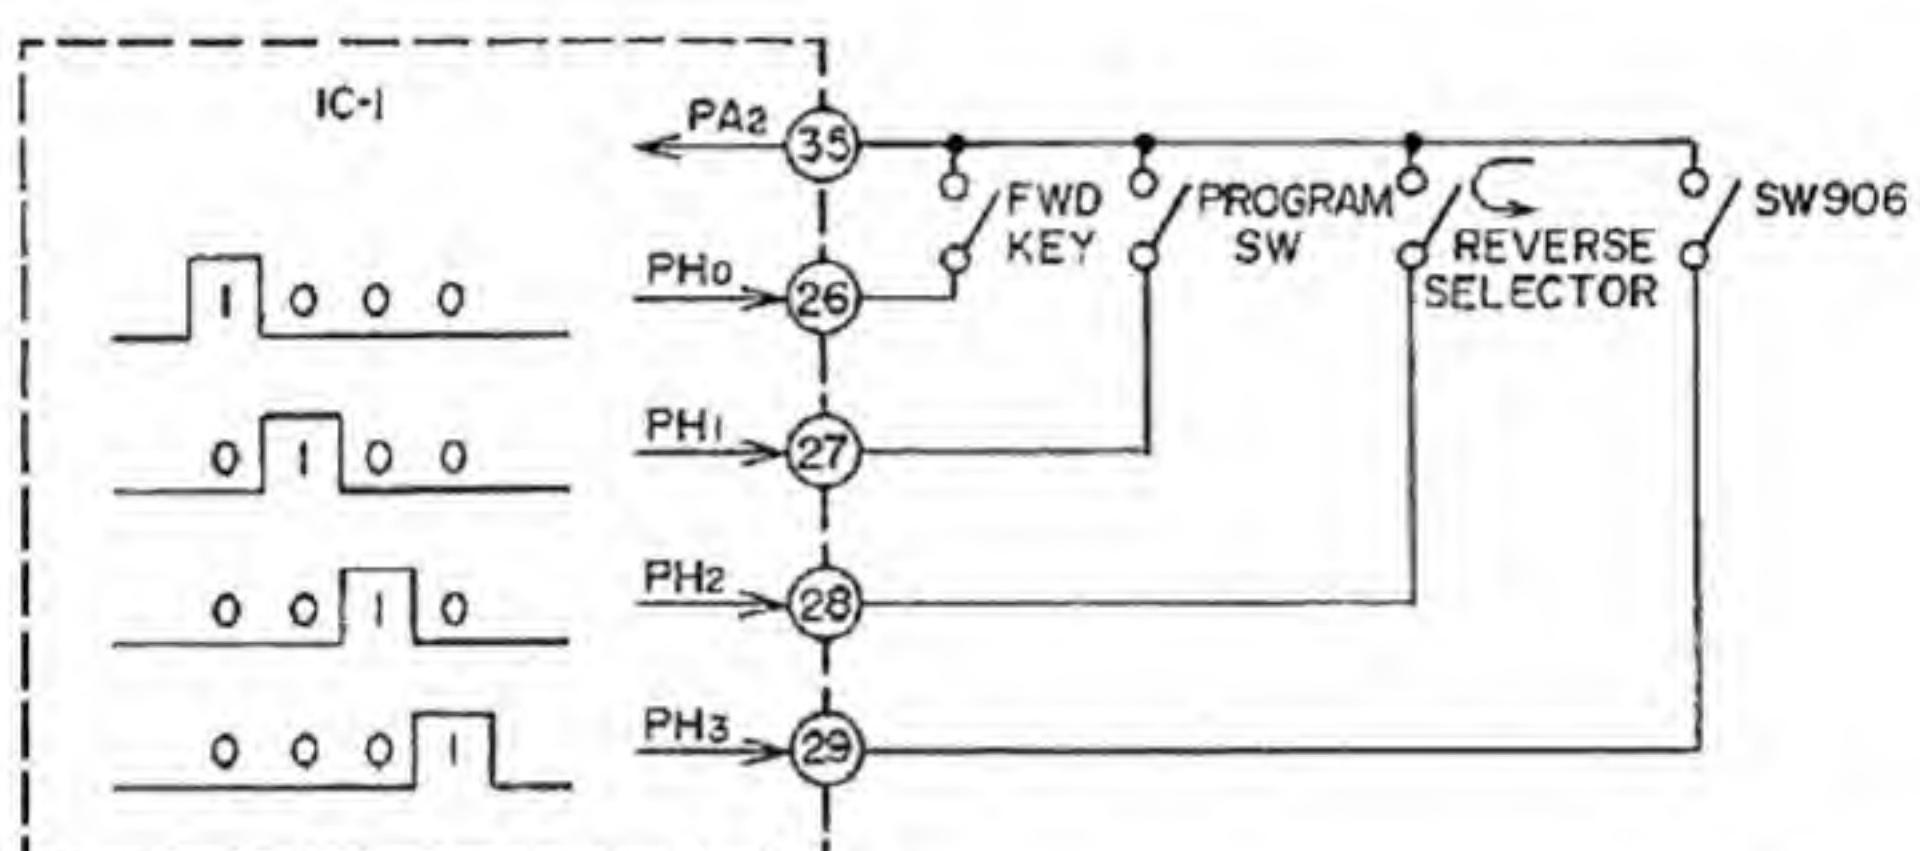

Fig. 14
If any input is made into (35), it is processed within the microcomputer depending on the signal and the signal is outputted from the respective terminal. If 1000 is inputted into (35), it is judged as FWD and the related signal is inputted to the output terminal. (See Fig. 14). Similarly, Signal 0100 from (27) passes the emitter and collector of TR86 and enters the Counter P.C Board. When the program SW (SW6) is pressed, Signal 0100 is inputted into IC1 (35). Signal 0010 from (28) passes the collector/emitter of TR87, and through D66 and the reverse selector SW (35), it is inputted into IC1 (35). Signal 0001 from (29) passes SR1 and SW906 and is inputted into (35).